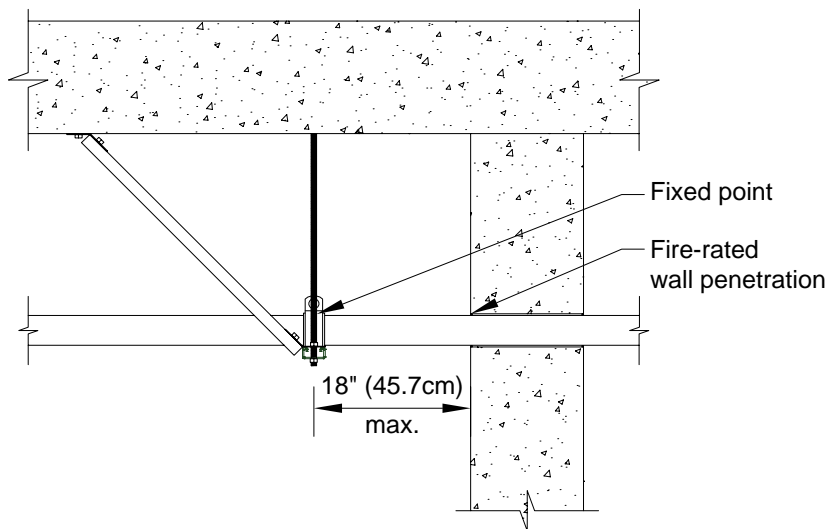

Figure 5-7: Fixed anchor point — fire-rated wall penetration
- Installed within 18" of a fire-rated wall penetration (see **Figure 5-7**)